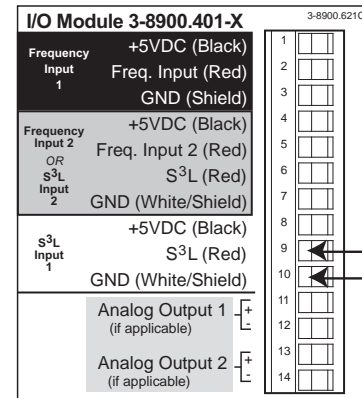

Figure 1
2. Connect terminal 10 of both controllers together with a single wire conductor. See Figure 1.